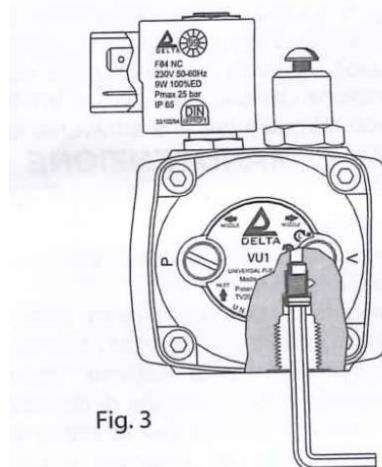

Fig. 3
- Fit the by-pass plug in the return port (Fig. 3).
- Using a 4 mm Allen wrench, unscrew the by-pass plug from the return port (Fig. 3).